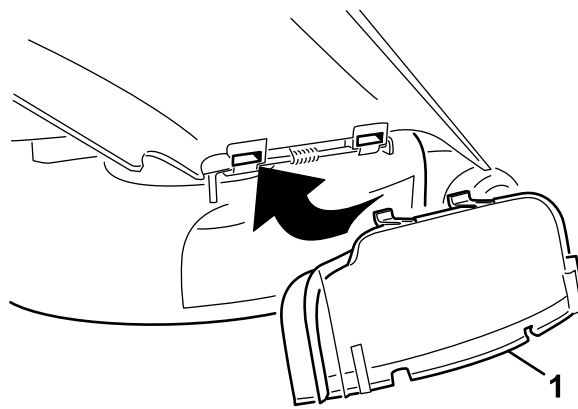

Figure 27
5. Rotate the discharge cover down over the opening, and onto the lower lip of the mower (Figure 27).
6. Secure the discharge cover to the lower lip of the mower with 2 bolts (1/4 x 2-1/2 inches) and 2 cap nuts (1/4 inch) as shown in Figure 27.